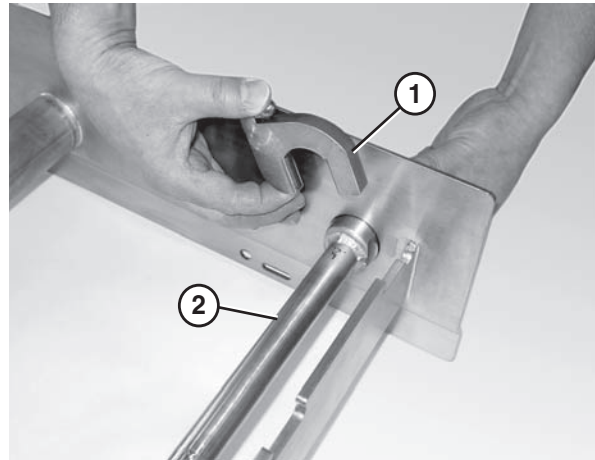

Figure 20
2. Attach the key stops (Figure 20, item 1) to the tip up shaft (Figure 20, item 2). The rounded end of the key stop should face the tail.